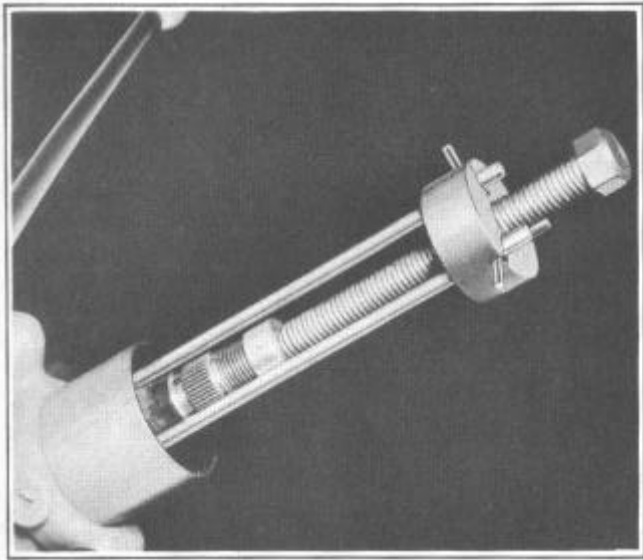

FIGURE 3
3. Engage fingers of Bearing Puller J-2792 below the bearing and place locating pins in slots in head of puller, Figure 3.